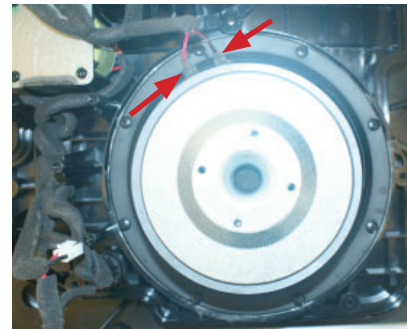

Figure 23
6.2 Remove the positive and negative wires from the woofer as shown in figure 23.